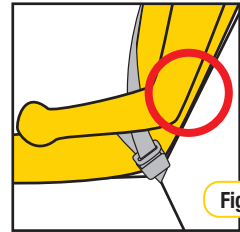

Figure 1
**Step 1:** Can the child sit with their back against the vehicle seat back? (refer Figure 1).